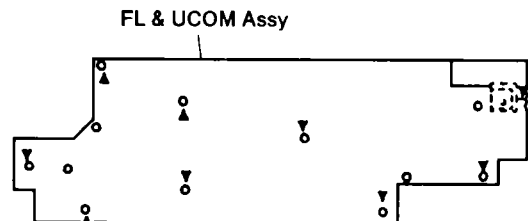

Fig. 2
2. Remove the six screws ①.
3. Remove the Round knob L and remove the screw ② between the volume and the front panel.
6. Remove the screws in Fig. 2 and remove the FL & UCOM assy.